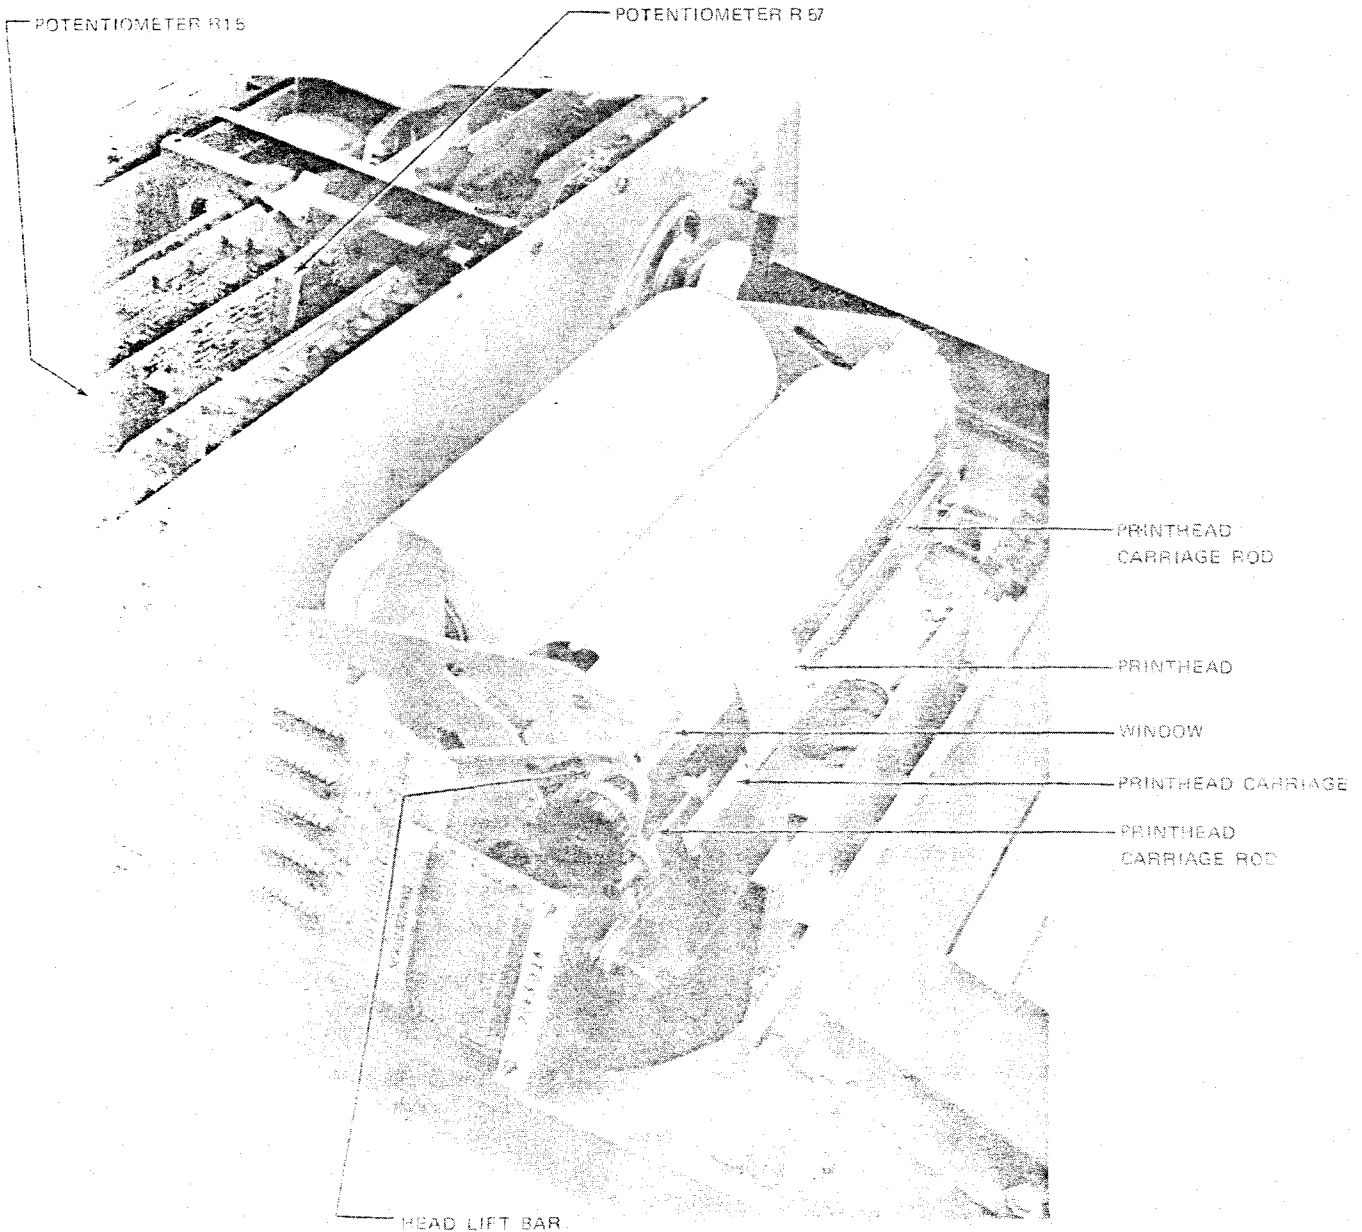

FIGURE 5-1.1. PRINTHEAD DRIVE MECHANISM CLEANING
- b. Clean the printhead carriage rod and head lift bar with a soft rag to remove paper residue (see Figure 5-1.1).